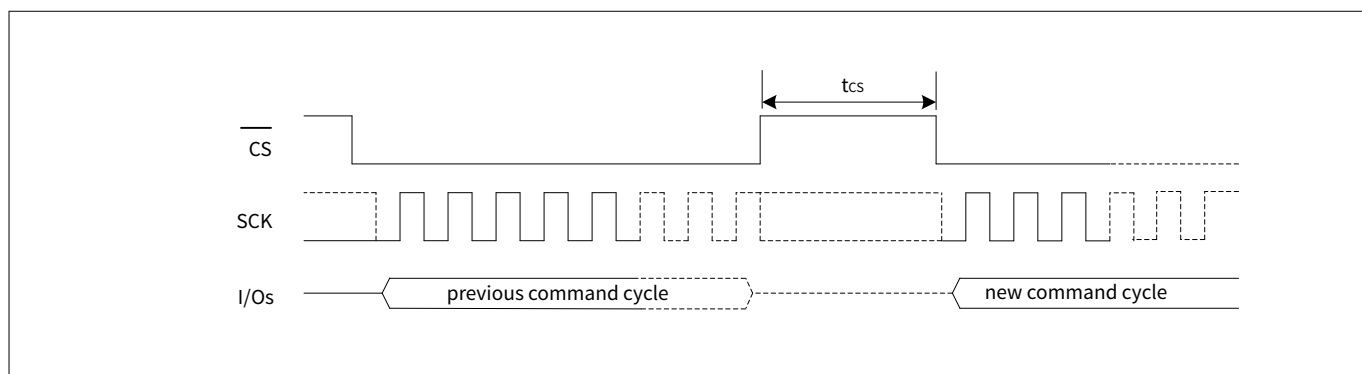

Figure 118 Chip deselect (\overline{CS} HIGH) - t_{CS} timing
- 4) t_{CS} is the minimum chip deselect (\overline{CS} HIGH) time before the new command cycle starts in a specific SPI mode (SPI, DPI or QPI). This parameter ensures that previous operation is successfully completed before the host starts a new command cycle. Refer to Figure 118